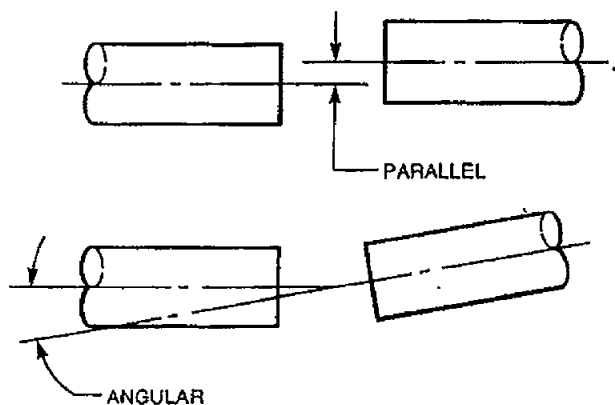

Figure 4-2
**Note:** Foot-mounted motors are shimmed between motor feet and motor shelf to provide the necessary accuracy of alignment between motor and gearcase shafts. If motor is removed and reassembled to hoist, the shimming must be retained. If new motor is installed, reshimming may be necessary. Maximum allowable misalignment of shafts using flexible coupling is 1° on angular alignment and 0.020" on parallel. See Figure 4-2.